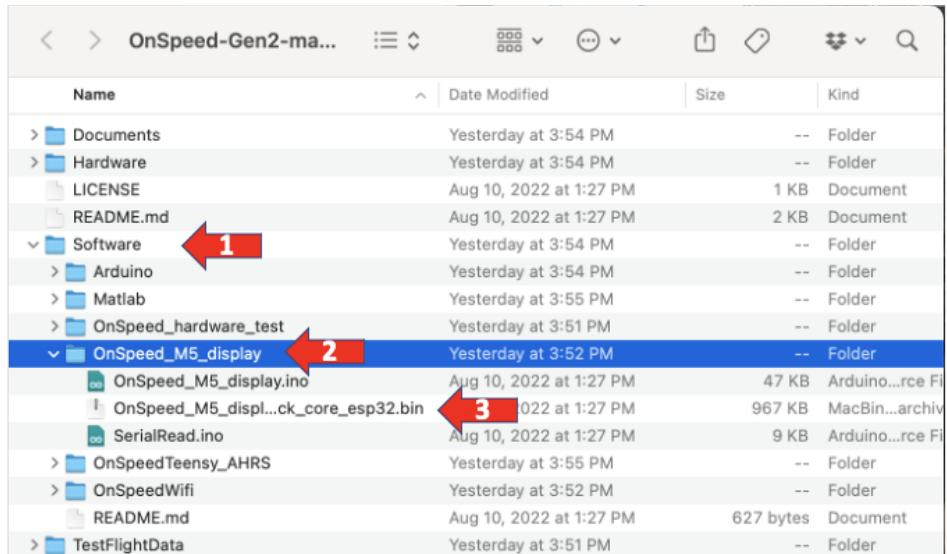
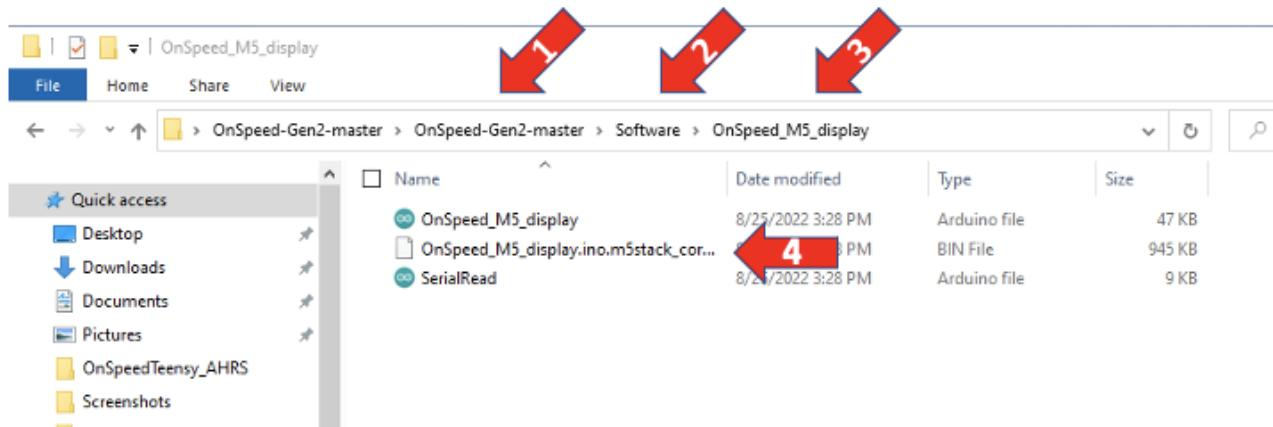
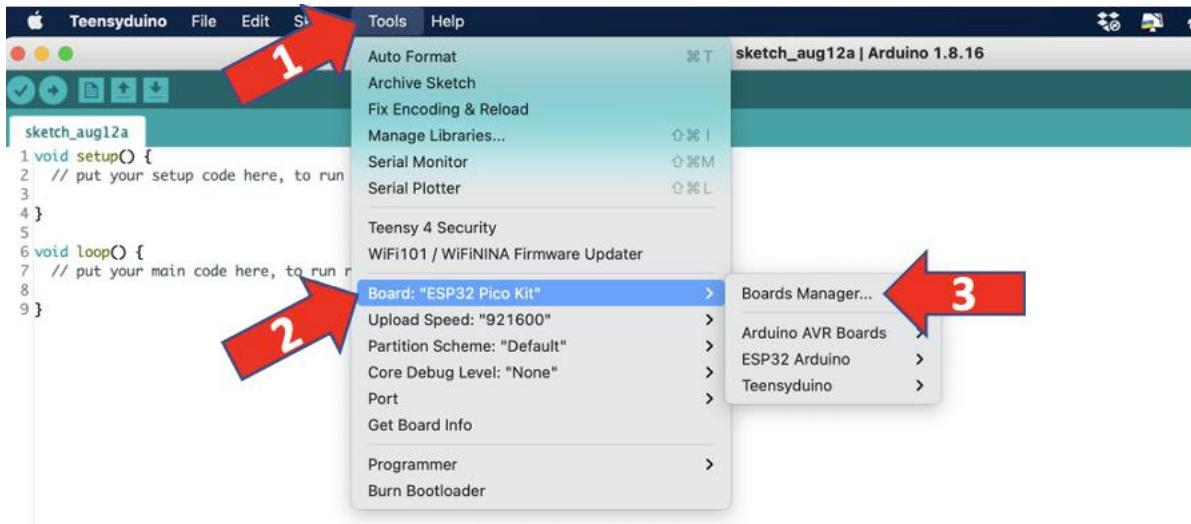

Figure 55. Navigating to optional M5 display firmware update file (Mac Finder).
Figure 56. Navigating to optional M5 display firmware update file (Windows File Explorer).
Figure 57. Updating optional M5 display firmware.
1. Navigate to the correct “ONSPEED\_M5\_display” folder to find the binary file for update (Figures 55 and 56). If you accidentally upload the OnSpeedWiFi binary update file, call for technical support.
Select the CHOOSE FILE button and navigate to the desired firmware file downloaded from the ONSPEED GitHub site (Figure 55 for Mac and Figure 56 for Windows File Explorer). UPLOAD the OnSpeed\_M5\_display.ino.M5stack\_core\_ESP32.bin file. During upload, the screen will display “Upgrading Firmware, please wait” (Figure 57). Firmware upgrade will take approximately 30-45 seconds. Be patient.